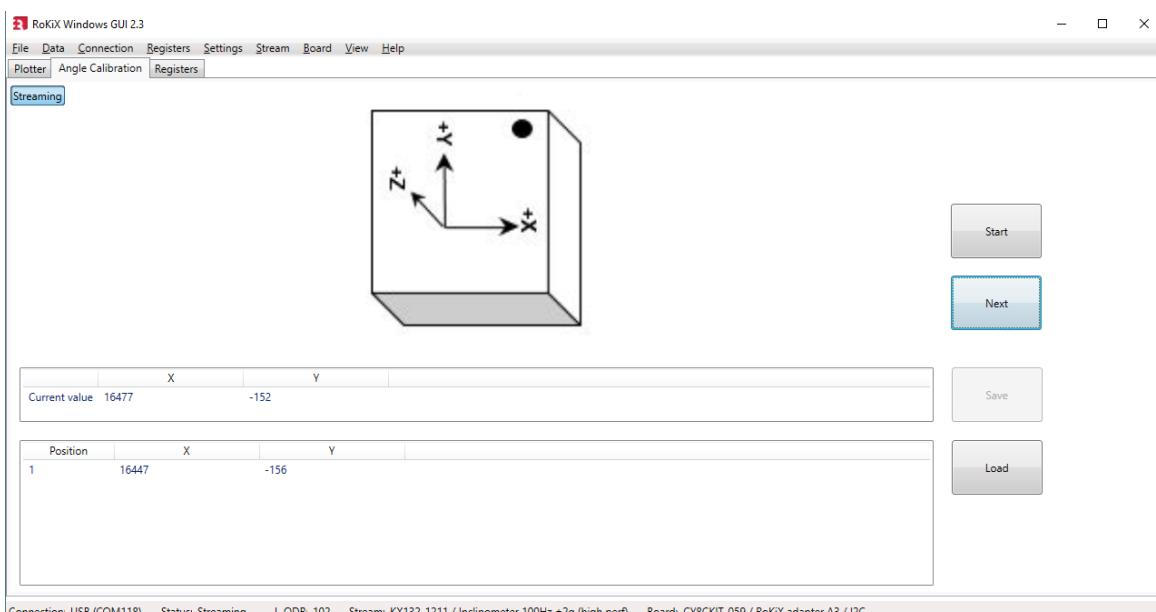

Figure 45: Angle Calibration. Position - 2
- Click Next and hold the device still until the diagram changes to the 2nd position (Figure 45)